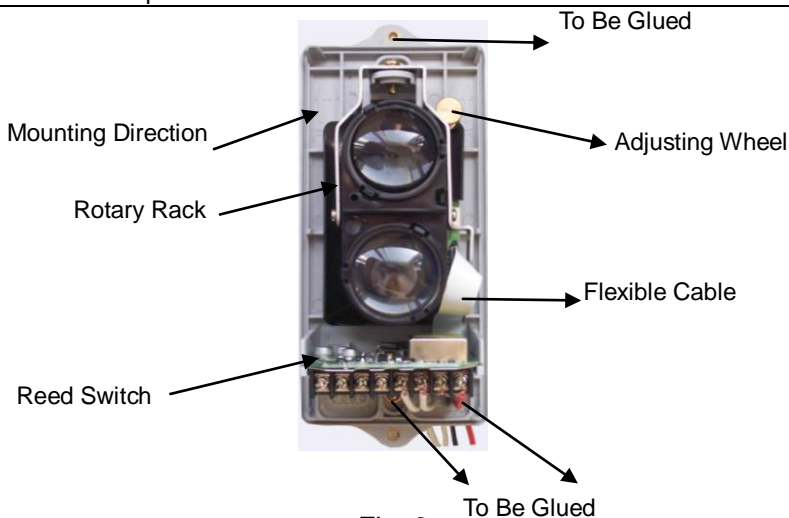

Fig. 2
2. Internal devices of the detector and positions to be glued are shown in Fig. 2.
Note: If the detector is mounted in special environment where there are slight dust or where it's damp, seal the three positions shown in Fig. 2 (two mounting holes and one cable entry) with glass glue or 703 silica gel after the detector is fixed and wiring is finished to ensure the detector work stably.